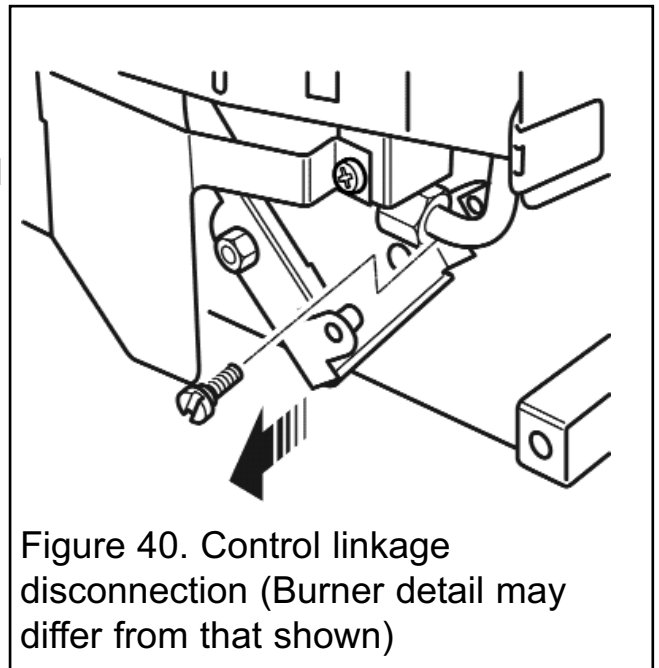

Figure 40. Control linkage disconnection (Burner detail may differ from that shown)
2. Detach the control-linking bar from the control pivot bracket by removing the knurled screw, which joins the control linking bar to the control pivot unit (See figure 40).